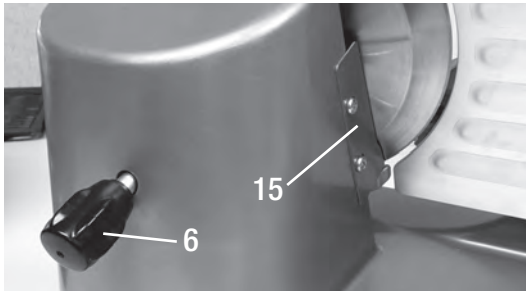

Figure 2. Close up view of the blade guard screw and the slice deflector.
6. Blade guard screw (shown in Figure 2)
15. Slice deflector (shown in Figure 2)
The slice deflector (15), shown in Figure 2, can be removed with a screwdriver (put screws away for safekeeping) and cleaned in the sink or using a mild spray cleaner. The area behind the slice deflector can be cleaned with a bottle brush.